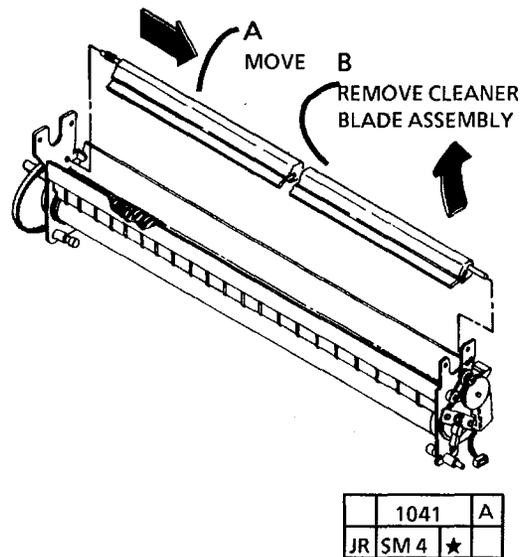

Figure 2. Remove the Cleaner Blade Assembly
4. (FIGURE 2): REMOVE THE CLEANER BLADE ASSEMBLY .